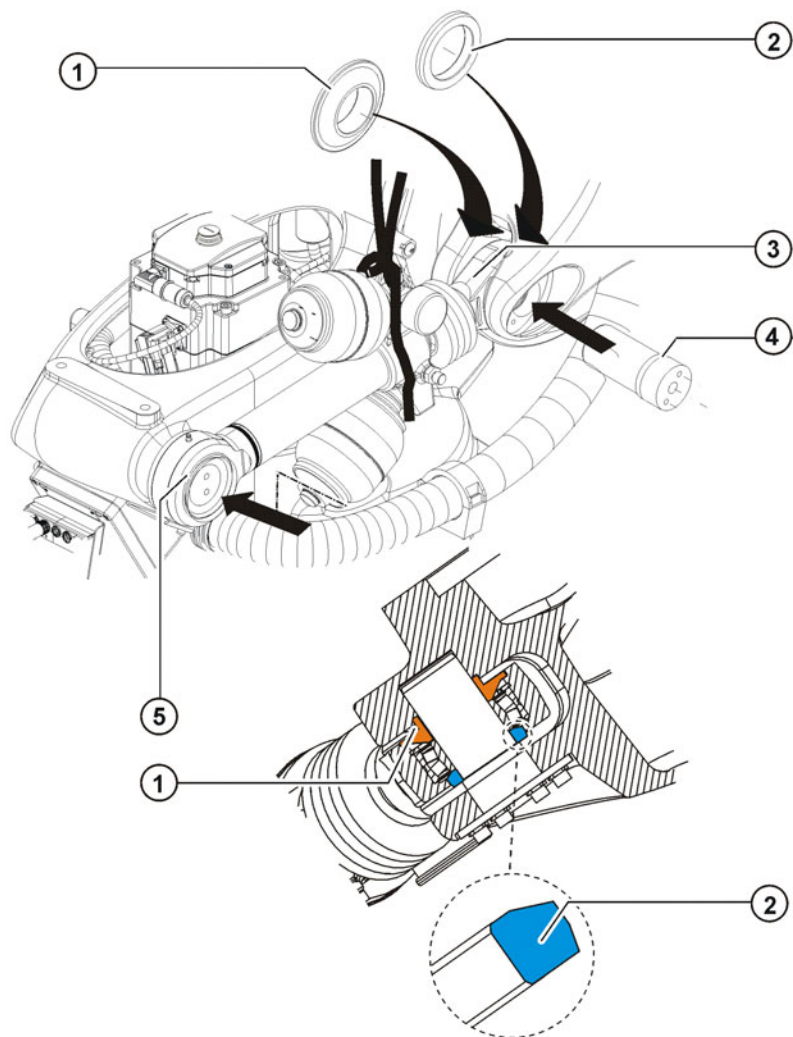

Fig. 11-25: Installing the counterbalancing system: pin
11. Move the link arm until the counterbalancing system can be inserted into the link arm. At the same time, move the element securing the link arm accordingly (>>> Fig. 11-25).